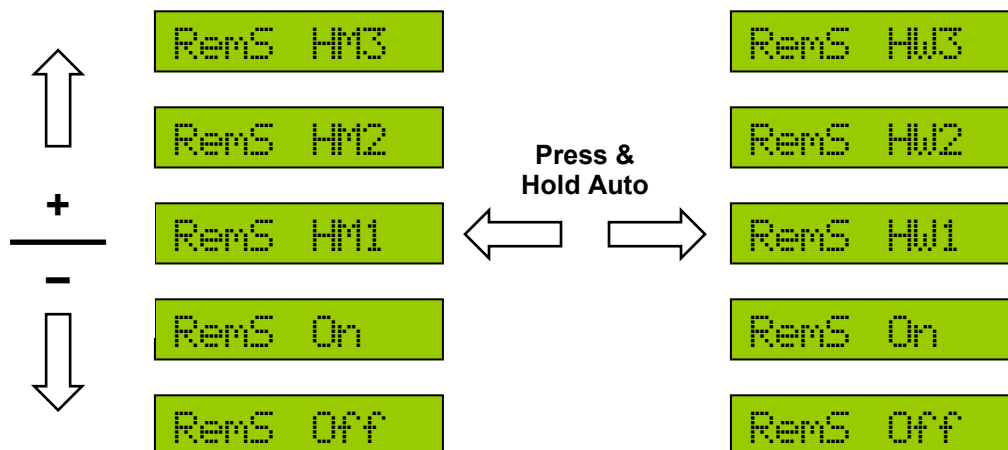

Figure 15: Headland Assist and Remote Switch Menu
- To switch between the wings only mode and the main lift mode, press and hold **Av** at any time in the Headland Assist menu. **Figure 15** shows the menu structure for the Headland Assist menu.